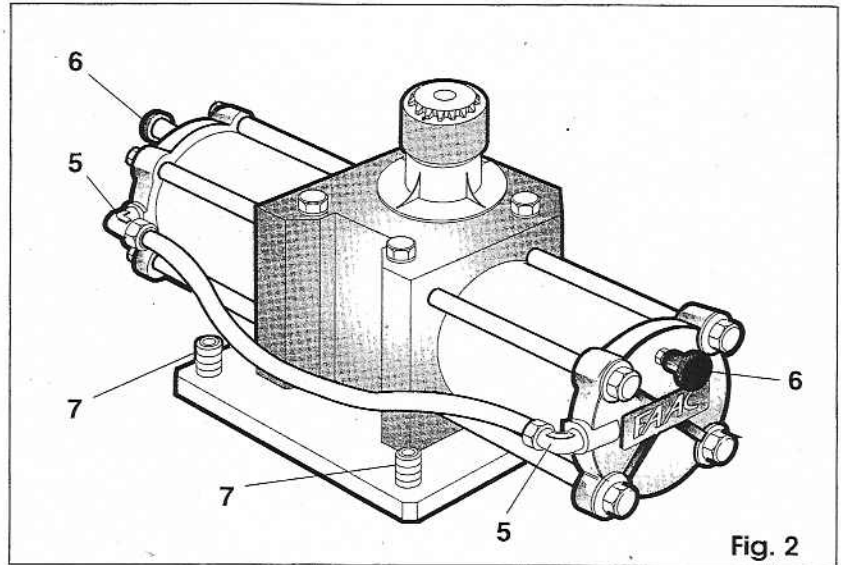

Fig. 2
**N.B.** The gate must rest on the guide bracket. If necessary increase the height of the ram support by turning the levelling bolts clockwise (fig. 2 - ref. 7).